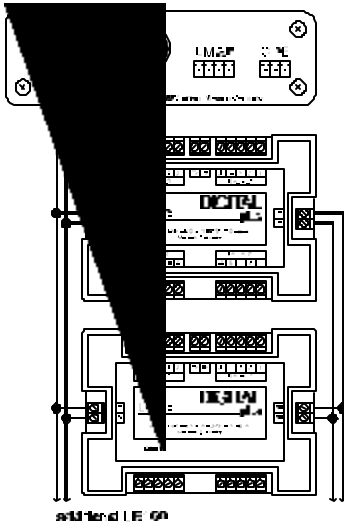

Figure 1 : Connecting the LR100 different to the Feedback Bus of the LZ100 LR100.
The LR100 can be powered by either the Digital track voltage or an AC power supply (12 - 16 V). In the first case, the » terminals on the LR100 are connected to the terminals **J** and **K** on the LV100. The terminals **R** and **S** are the connectors for the feedback bus. Please connect these terminals to the same terminals on the LZ100. Several LR100 can be wired in parallel, as shown in Figure 1.
3. Connect the terminals labeled **»** with the terminals **J** and **K** on the LV100. (see figure 1)